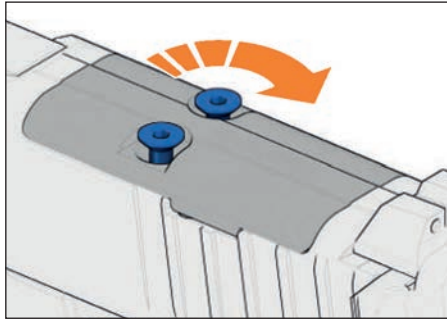

Figure 11 – Tighten screws
4. Tighten screws until the torque is reached (Figure 11).